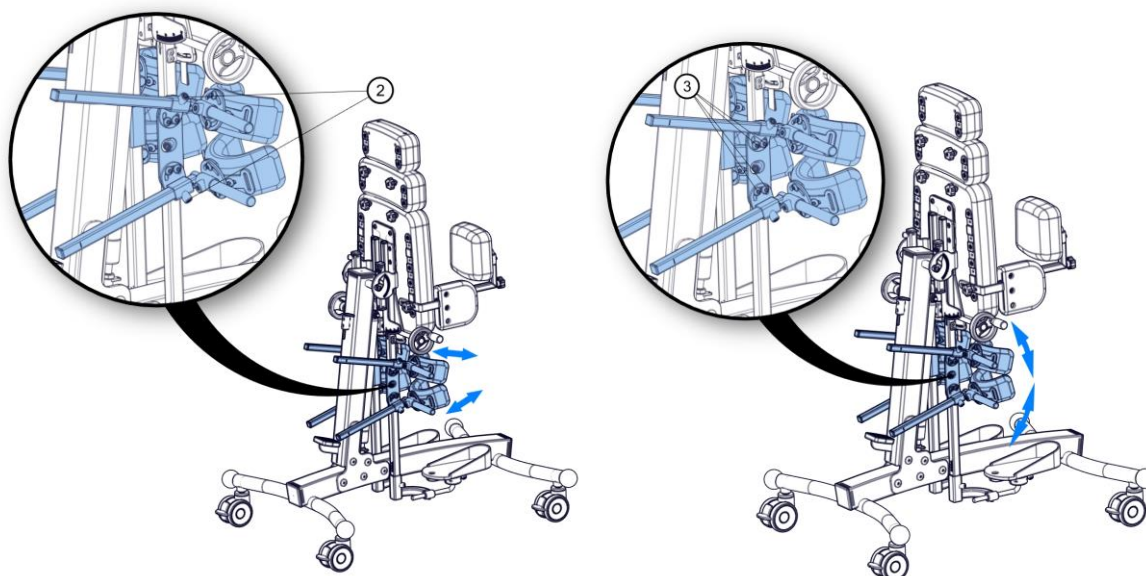

Fig. 26
In order to adjust the depth of the two-point knee cap, please loosen the screw (2) (Fig. 26), set the appropriate position, and then tighten the screw (2). In order to adjust the angle of the knee cap, loosen the screw (3), set the knee cap, and then tighten the screw (3) (Fig. 26). Repeat the same procedure for the second knee cap.